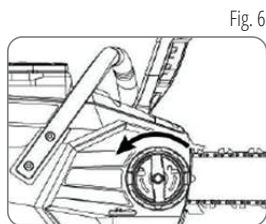

Fig. 6
2. Release the guide plate locking knob counter clockwise and open the side cover (see fig. 6).